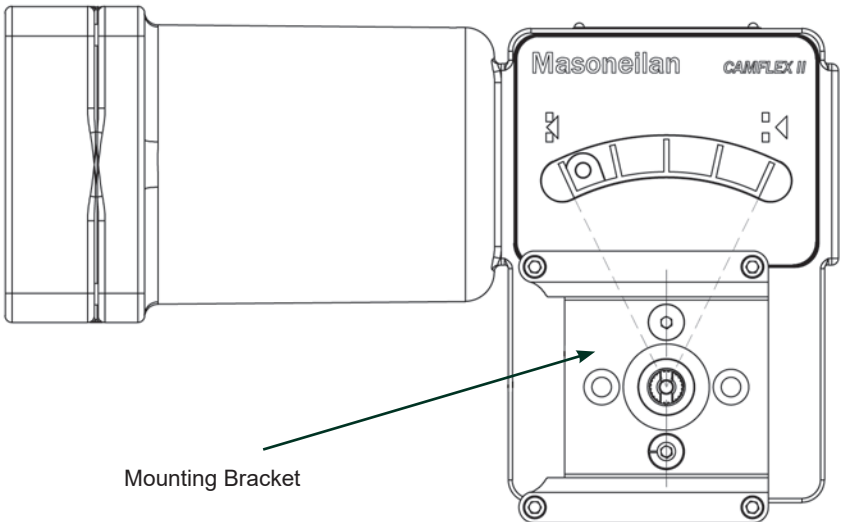

Figure 3 - Camflex Mounting Bracket
1. Attach the SVI3 rotary mounting bracket to the valve actuator with two 5/16 - 18 UNC flat-head cap screws and tighten using 3/16" Hex Key as shown in Figure 3. Always position the long end of the bracket towards the gauges of the positioner to provide a horizontal SVI installation.